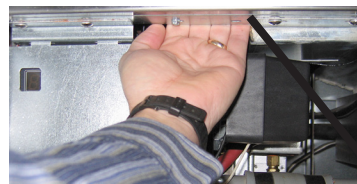

Figure 6
28. Cycle the control power using the hidden reset momentary rocker switch under the left control box in gas (see Figure 6) or behind the right control box over the JIB in electric (see Figure 7). HOLD THE SWITCH FOR 30 SECONDS ENSURING THE FRYER BOARDS HAVE POWERED FULLY DOWN.